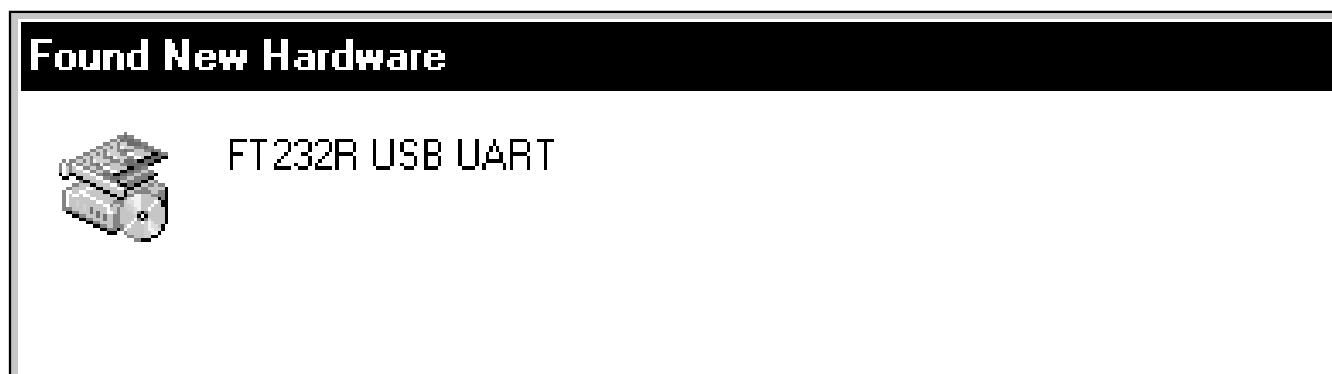

Figure 9. Windows 2000: **Found New Hardware** Window
- 1) Once the USBTO232 board is connected to the PC for the first time in Windows 2000, a **Found New Hardware** window appears, as shown in Figure 9.